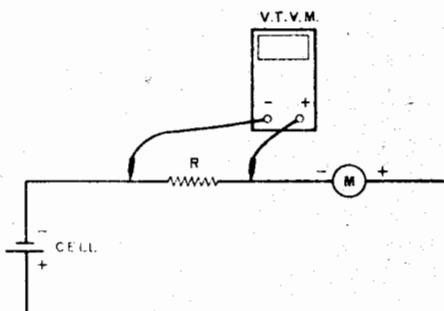

Fig. 2. Voltage reading across a known series resistor and quick calculation can be used to determine full-scale current.
Start with the highest-value resistor (R) and a single cell placed in series with the meter, as shown in Fig. 2. If the meter terminals are marked as to polarity, be sure to connect accordingly. If
Note the mark and determine its fraction of full scale. In other words, if there are 100 divisions on the scale and the pointer is resting on the twentieth, the fraction would be $\frac{20}{100}$, or $\frac{1}{5}$ of full-scale reading. Leave the meter connected and use a v.t.v.m., as shown in Fig. 2, to measure the voltage drop across the resistor. Since this drop will be small in most cases, take care to zero the v.t.v.m. properly and use the lowest available voltage scale that will give a substantial reading to insure accurate measurement.